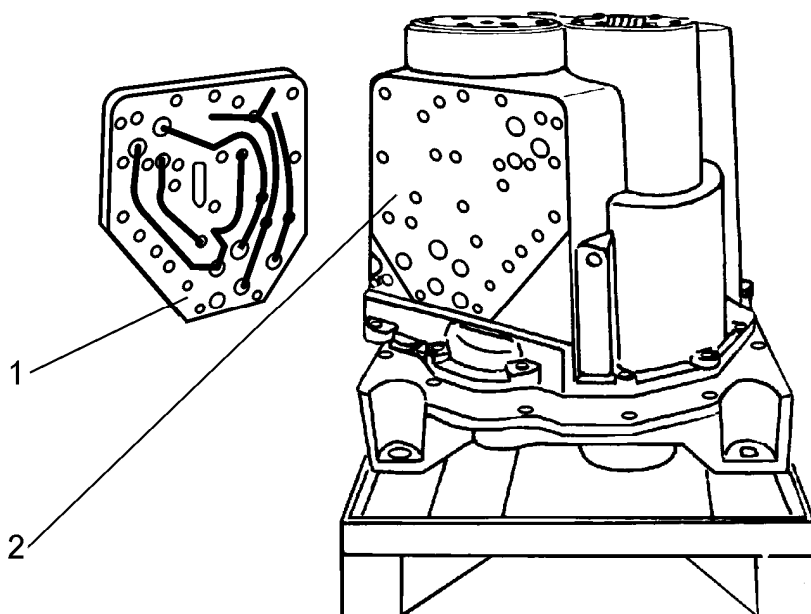

Fig. 7C.4. Removing the Transmission Manifold
16. Remove the rate of rise valve (3) with gasket (11).
17. Remove the orifice strainer (4).
18. Remove the valves manifold (1, Fig. 7C.4) and manifold gasket (2) from the transmission.